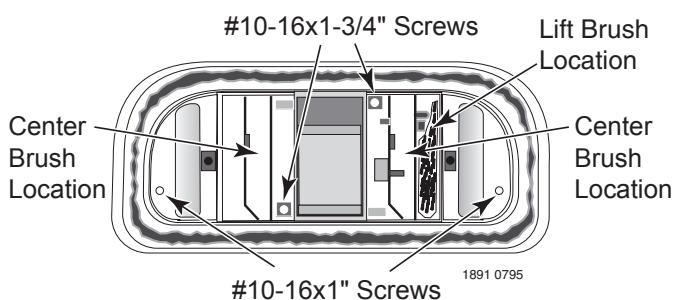

Figure 33      Bottom View of Cleaner
8. Install the lower body assembly in the shroud. Fasten the cleaning head in place with 4 screws (2 long, 2 short – see Figure 33).